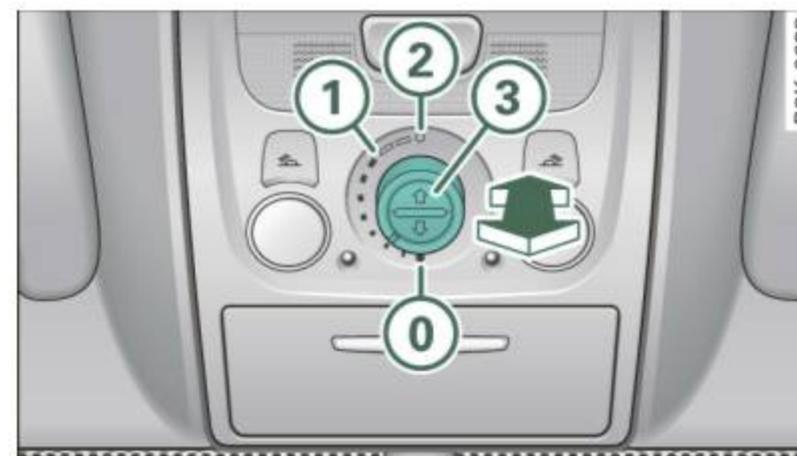

Fig. 48 Section from headliner: Knob for Panoramic sliding sunroof
- The sunroof can be tilted or closed only in switch position ① ⇒ fig. 48
- To tilt it, briefly press the switch ⇒ fig. 48.
- To automatically open the sunshade completely, briefly press the switch ⇒ page 52, fig. 48 ③ in the desired arrow direction.